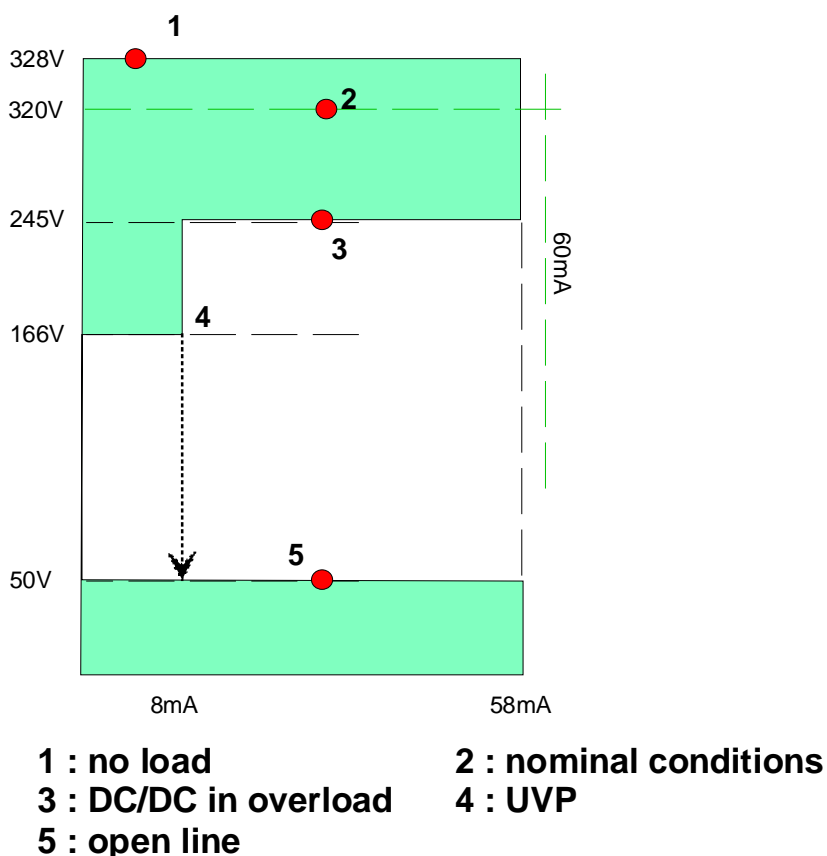

Figure 3 : DC/DC Up converter – output characteristic
- c) At the time of installation, a system assessment shall be carried out to ensure that the effective capacitance of the total system, including the capacitance of the Feeder, does not exceed the values specified in EN60950-21 Figure 3.
Protections: see fig. 3